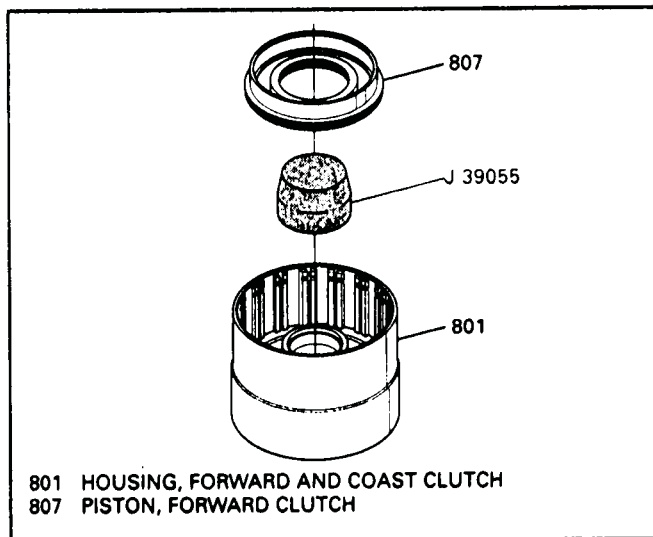

Figure 77
3. Install forward clutch piston into the housing using lip seal tool J-39055, as shown in Figure 77. Make sure the outer lip seal does not roll backwards.